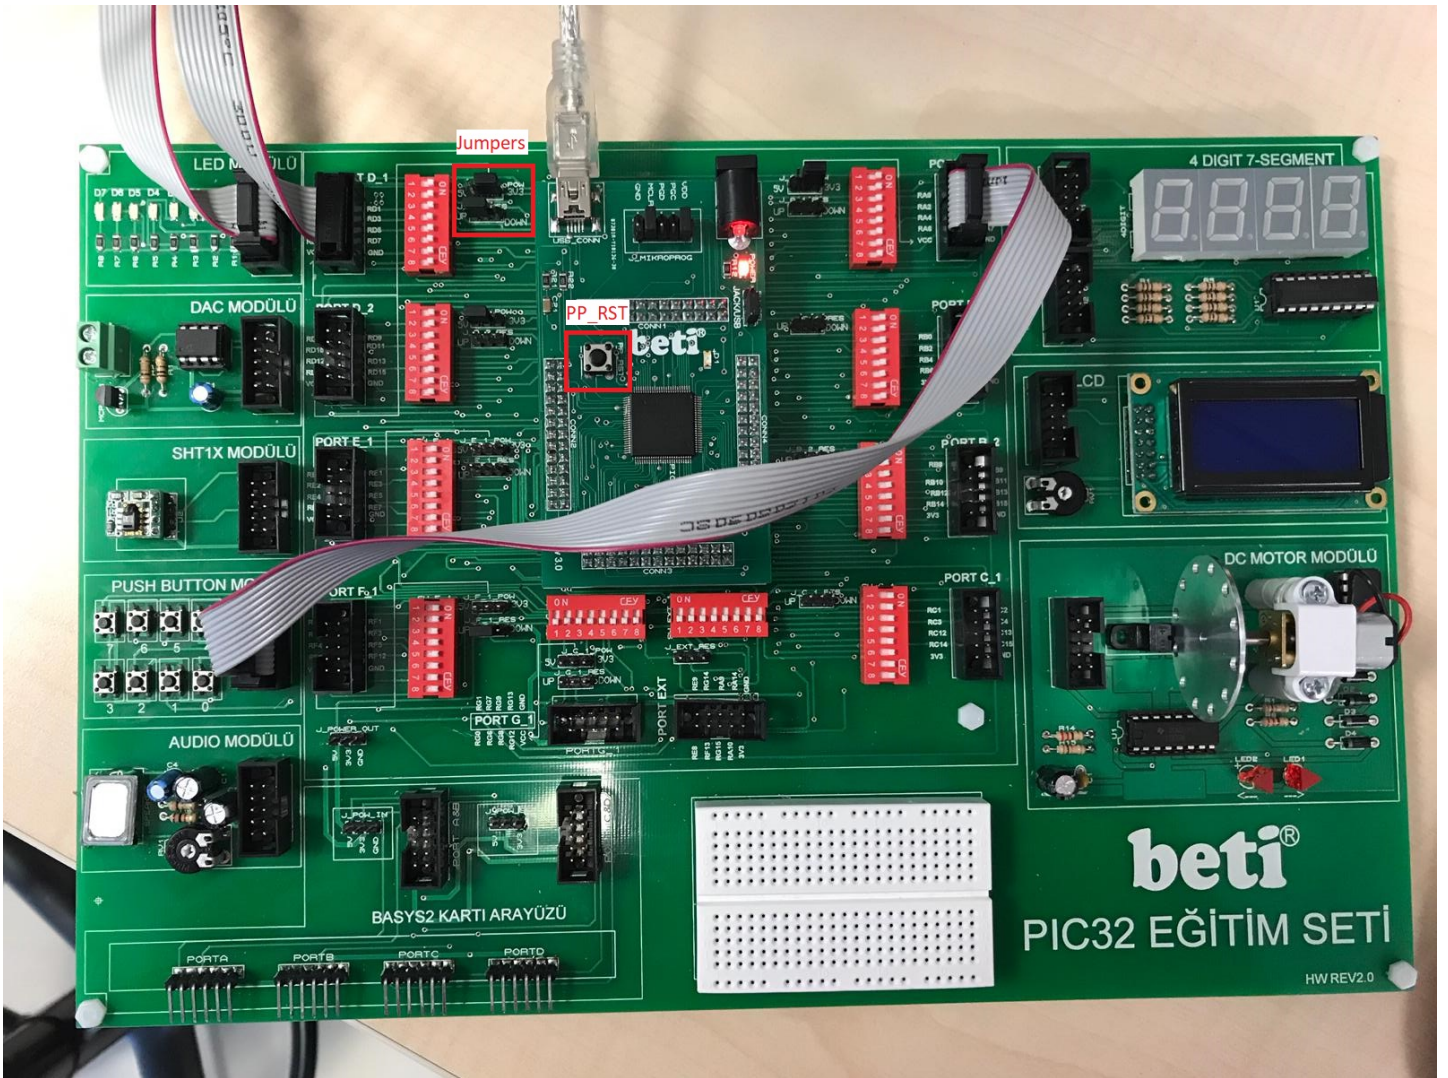

Figure 1: Beti Board configuration for the example code
5. Make sure that you connected the ports as shown in the Figure 1. Note that some ports of PIC32 might not work consider using other ports. However, if you used for example PORTC instead of PORTD, change the given code accordingly because in the code it is assumed to you used PORTD.
3. Top right port which is not visible in the Figure 1 is PORT A.
them by looking at the Figure 1, in the directives document.